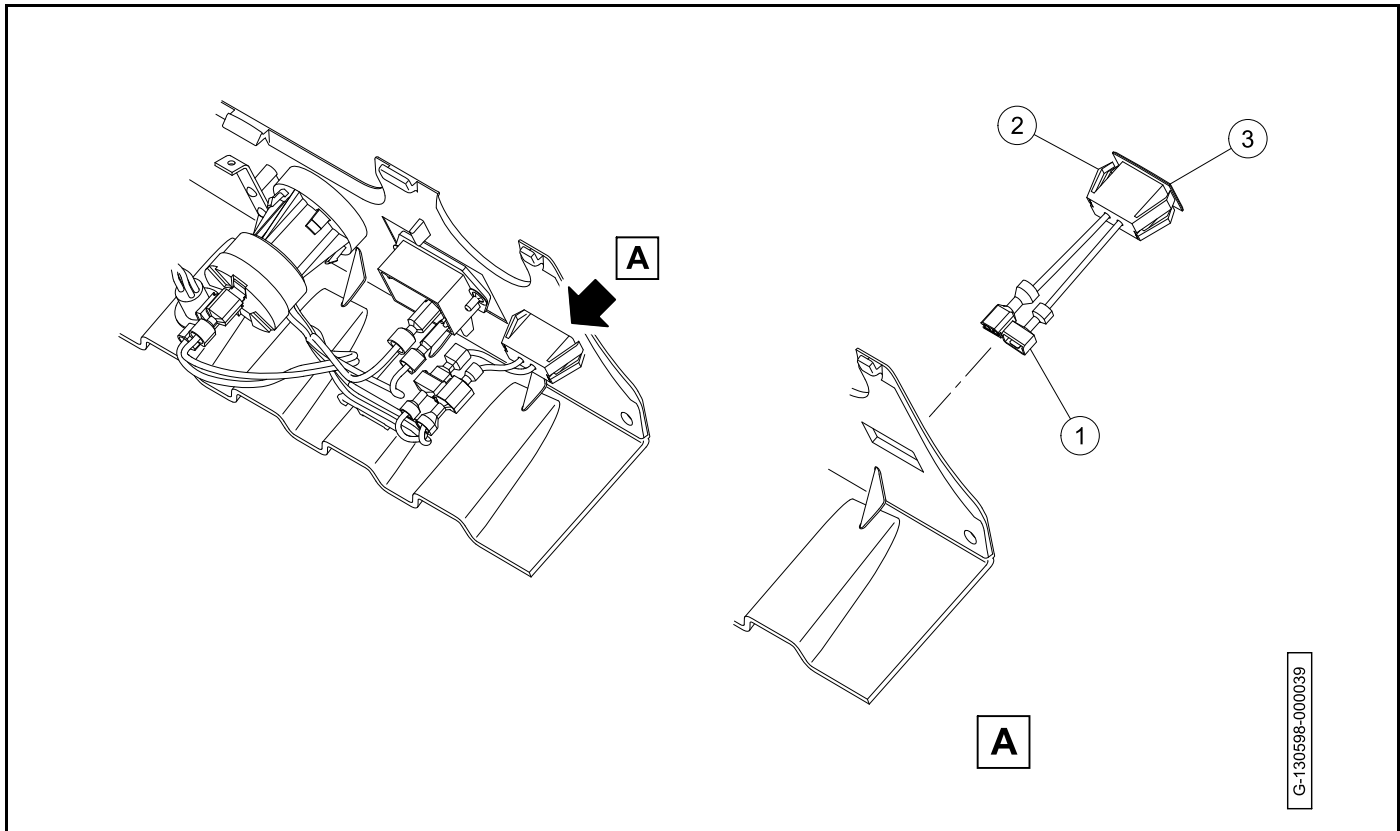

Figure 13-2
3. Disconnect the charge indicator light wires (1) (**Figure 13-2**).
4. Push the lock tabs (2) on both sides and remove the charge indicator light (3).
1. Push the charge indicator light (3) into the hole in the instrument panel until the retaining tabs (2) engage (**Figure 13-2**).
2. Connect the charge indicator light wires (1).